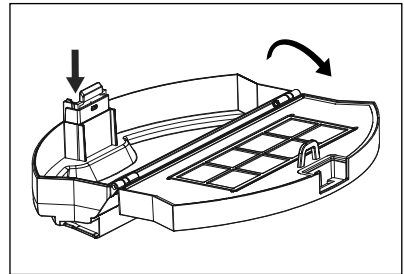

Fig. 8
- 2) Press the release button **15** of the dust container **15**, and fold it open (see Fig. 8).